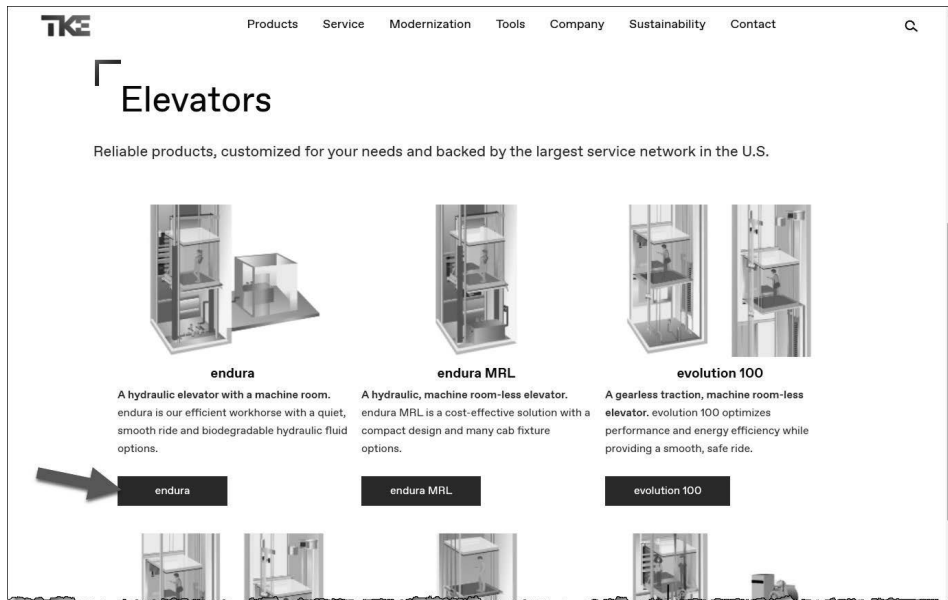

FIGURE 4-3.3 Elevator manufacturer's website
5. Click the **endura** product line option (Figure 4-3.3).